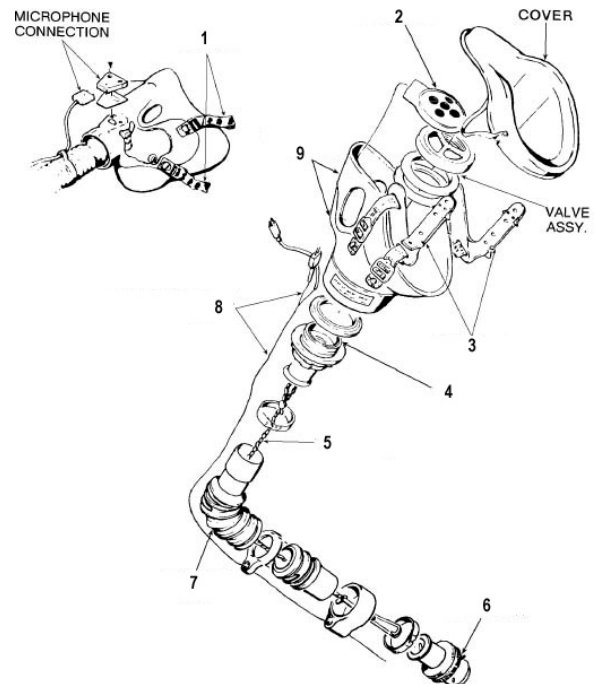

Figure 1-9 — MBU 12/P Mask
4. Study the MBU-12/P oxygen mask in Figure 1-9. Place the correct number beside the following components: